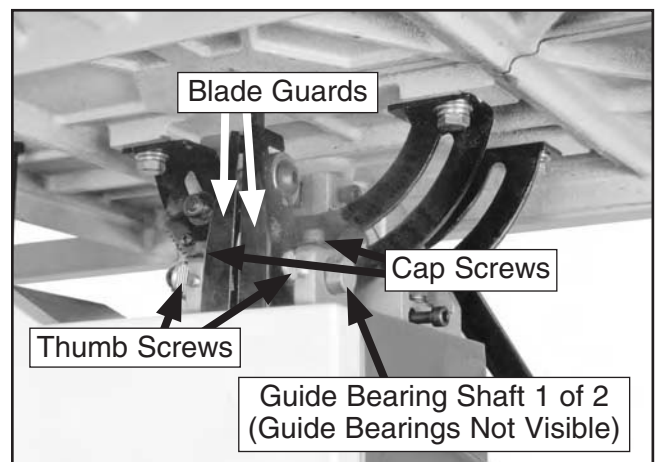

Figure 31. Front of lower blade guide.
3. Remove the cap screws shown in **Figure 31** and remove the blade guards.
4. Loosen the thumb screws shown in **Figure 31** and slide the guide bearings away from the blade.